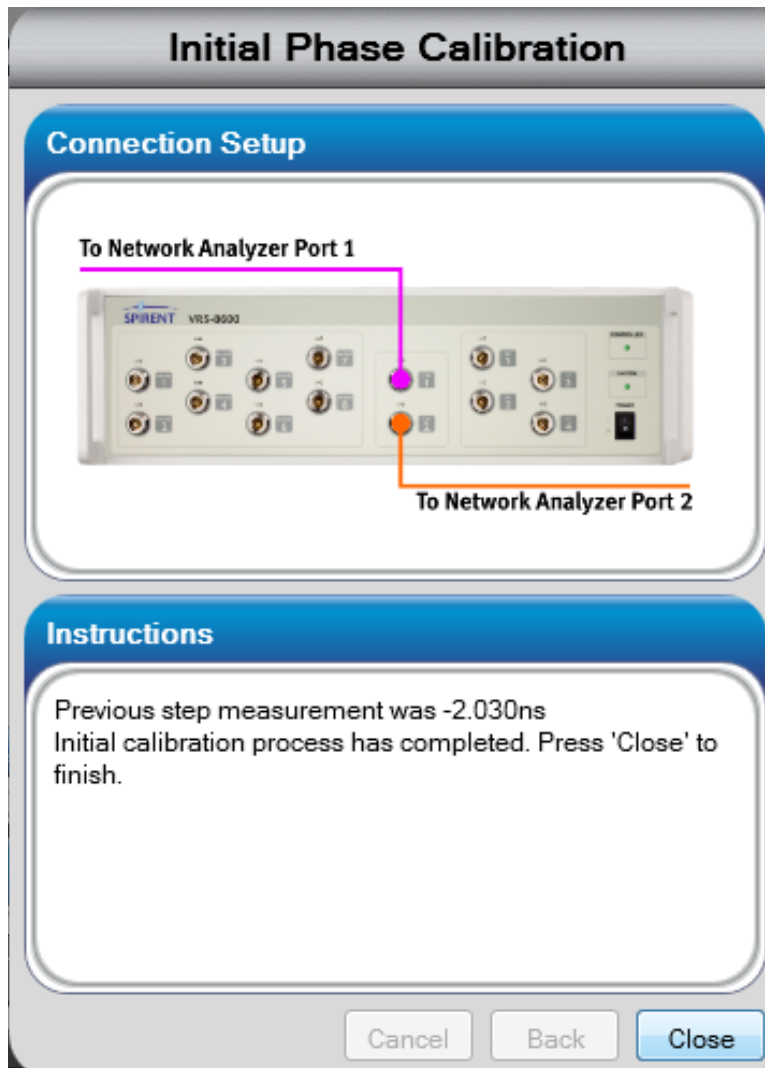

Figure 4-17: Initial Phase Calibration Window
24. Follow the steps described in the *Connection Setup* windows until the *Initial Phase Calibration* window displays, as shown in Figure 4-17.